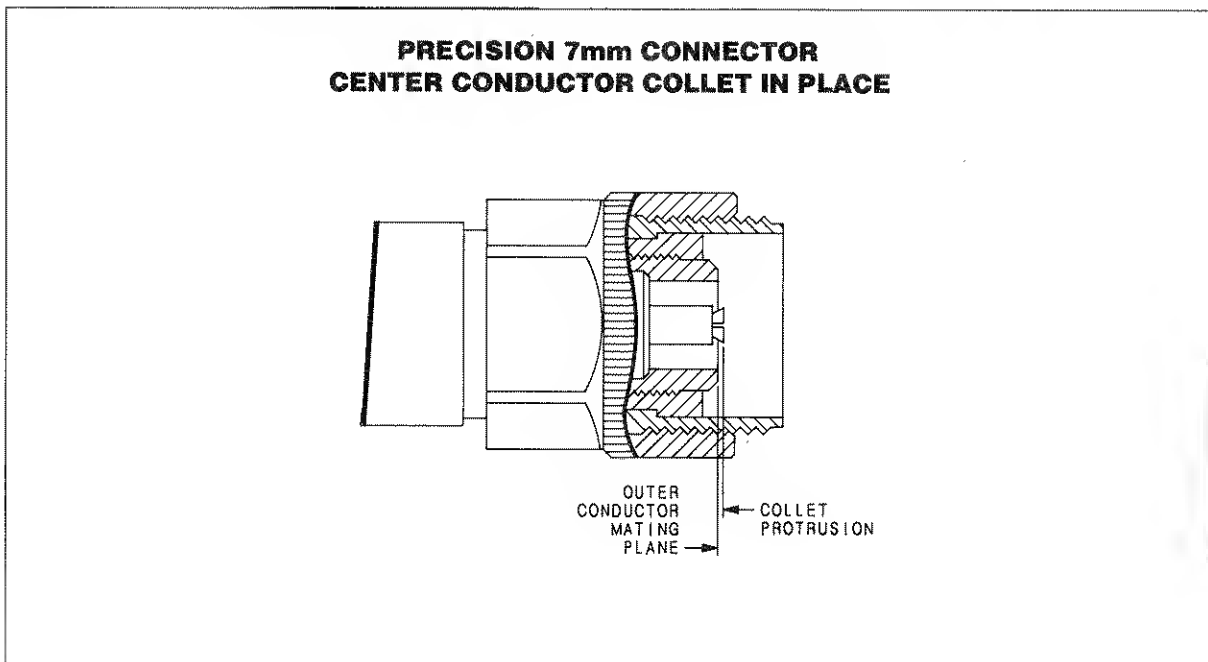

Figure 6. Precision 7mm Connector
The critical dimension to be measured, regardless of connector type, is the position (generally, the recession or setback) of the center conductor relative to the outer conductor mating plane. See Figures 6 through 9.
**Precision 7mm Connectors.** In precision 7mm connectors (Figure 6), contact between the center conductors is made by spring-loaded contacts called collets. These protrude slightly in front of the outer conductor mating plane when the connectors are apart. When the connection is tightened, the collets are compressed into the same plane as the outer conductors.